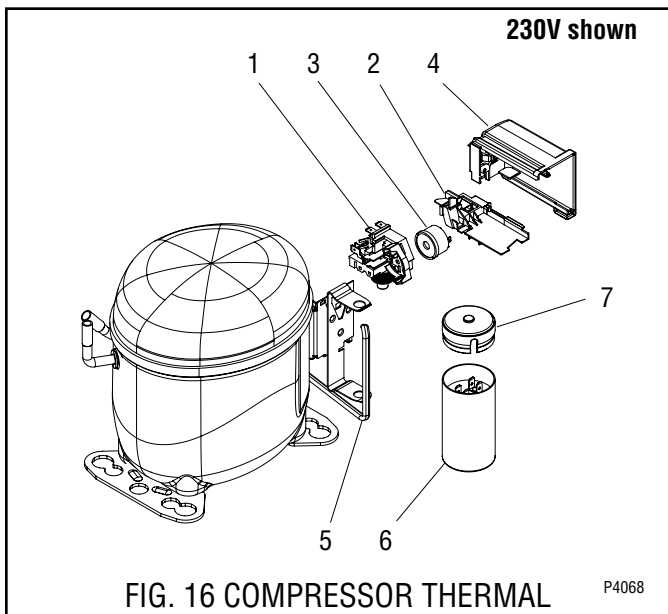

FIG. 16 COMPRESSOR THERMAL OVERLOAD PROTECTOR LOCATION
Compressor Start Relay: Refer to FIG. 16
1. Remove the terminal cover (4)
3. Pull relay (1) off of the compressor pins and discard.
5. Refer to Fig. 16 and reconnect the wires.
6. Reinstall terminal cover (4).
Compressor Thermal Overload Protector: Refer to FIG. 16